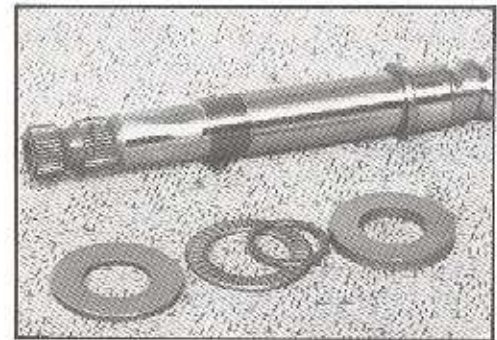

Figure 86
38. Remove the second thin thrust washer (17), spacer washer (16) thrust bearing (15) and the thick thrust washer (14) from worm shaft (25B). SEE FIGURE 86.